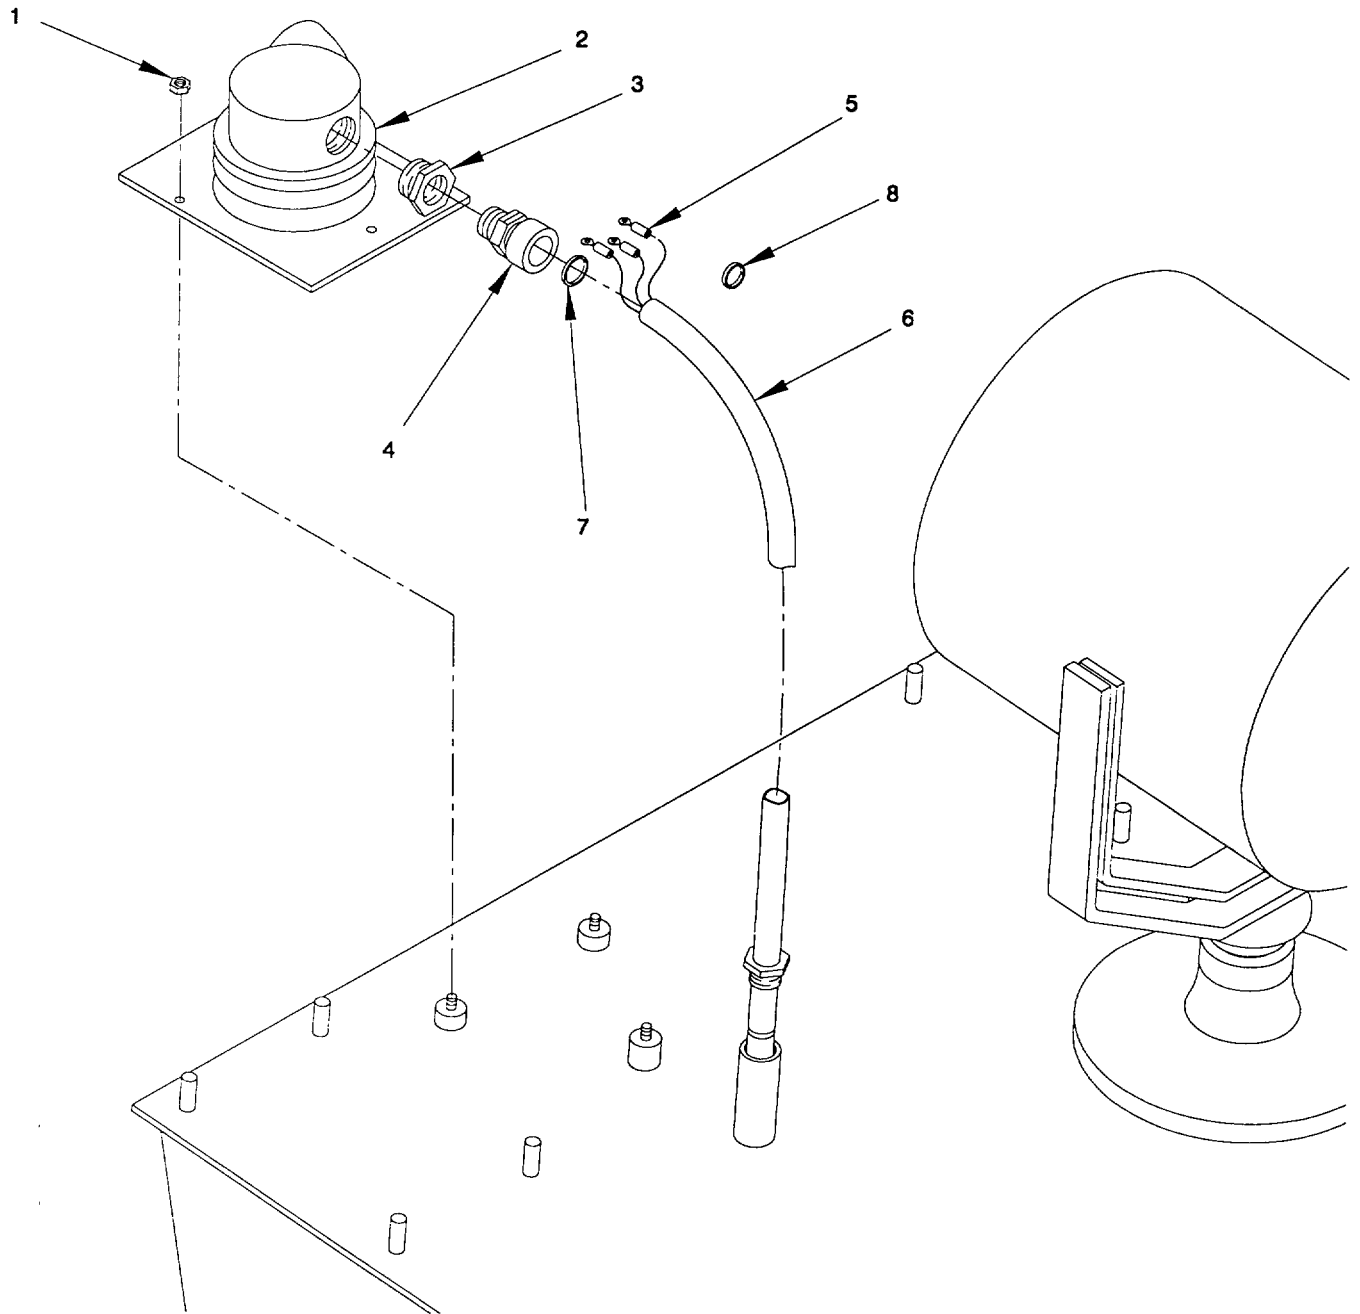

Figure 2-93. Navigational Horn, Remove/Install
a. Remove. (figure 2-93)
- (1) Remove the three self locking hex nuts (1) and lift the navigational horn (2) from the studs on the roof of the cab.
- (2) Unscrew pipe reducer (3) and stuffing tube (4) from horn. Unscrew cap of horn and remove to access wiring. Disconnect the three electrical leads (5). Tag all horn electrical wires.
- (3) Remove the cable (6) from pipe reducer (3), stuffing tube (4), packing (7), and grounding gasket (8).
b. Install. (figure 2-93)
- (1) The entrance of the cable (1) from the navigational horn (3) into the cab shall be grounded and bonded with grounding gasket (8) antiseize compound and adhesive. Refer to Appendix G.
- (2) Thread electrical cable (6) through the grounding gasket (8), packing (7), stuffing tube (4) and pipe reducer (3) to the horn.
- (3) Reconnect three leads (5), as tagged, to horn and install horn cap. Refer to Appendix G for proper wiring information.
- (4) The Position new navigational horn (2) on roof of cab and secure with three self locking hex nuts (1).